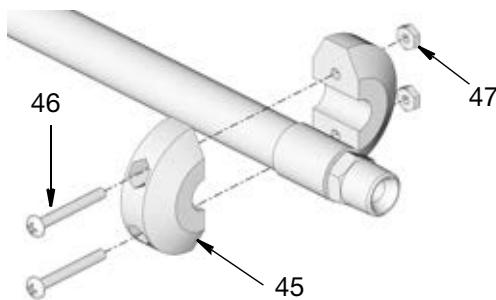

FIG. 14
14. Reinstall the ball stop and dispensing valve (FIG. 14).
15. Remove c-clamp (A).